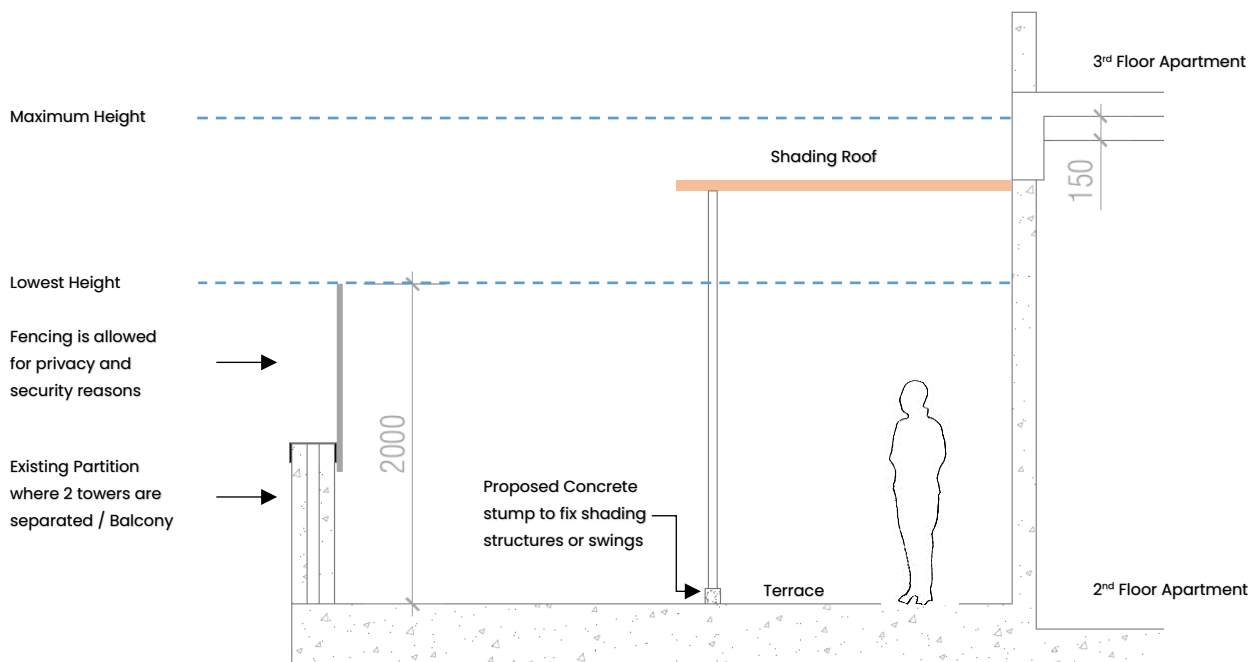

Figure 4: Typical Shading and Fencing requirement diagram for 2nd Floor Apartments
- 6.2.3** For security and privacy precautions, customers may fix fencing on parapet wall which is lower than 2m so that when the fencing is installed on the balcony, the total height of the partition including the balcony and the fencing will reach up to 2m in total. (Refer to Figure 4)
- 6.2.6** Refer to Figure 4 for details.